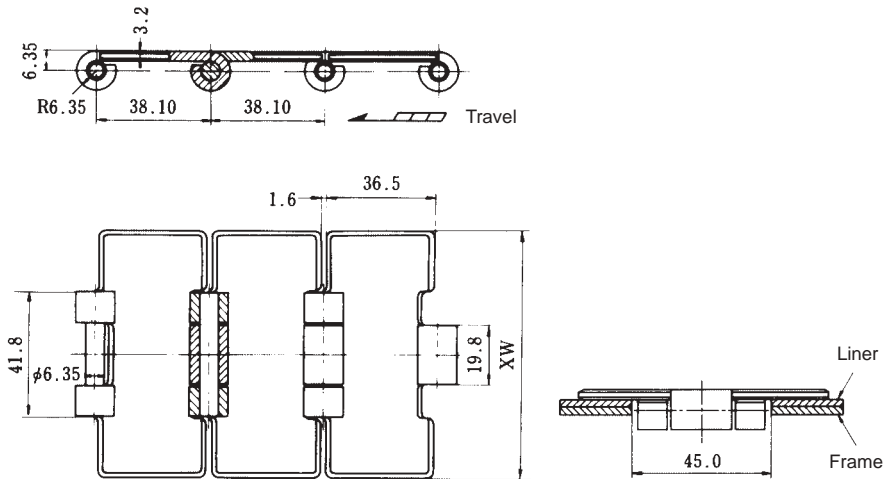

Figure 4.9 TT Top Chain
- (1) TT Top Chain consists of stainless steel top plates with rolled hinges and connecting pins. Due to its simple construction, the chain is easy to clean, and it meets the requirements of sanitary environments. (Figure 4.9).
- (2) There are two standard types of TT Top Chain: N-type has 304 stainless steel pins and 430 stainless steel plates; SS-type is made entirely of 304 stainless steel.
- (3) Table 4.10 shows the main functions of this chain.
- (4) There are eight widths of top plates: 63.5, 76.2, 82.6, 101.6, 114.3, 127.0, 152.4, and 190.5 mm. The top plates have beveled (or chamfered) edges, which permit smooth loading or accumulating of conveyed objects, such as bottles.